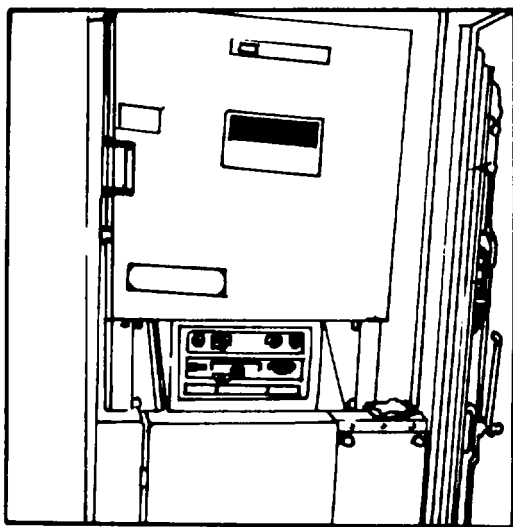

Figure 1-12. Drying Oven
e. The drying oven (Figure 1-12) and hot plate set (Figure 1-13) are comprised of a mechanical convection oven and an explosion-proof hot plate. The oven is used to dry samples from the filter blotter test and the hot plate is used during the crackle test. The maximum operating temperature of the oven is 260 degrees Centigrade with a consistency of plus or minus 4 degrees C. The oven is permanently installed against the forward, curbside bulkhead. The hot plate is stored in cabinet K2 and used in the fume hood when deployed.